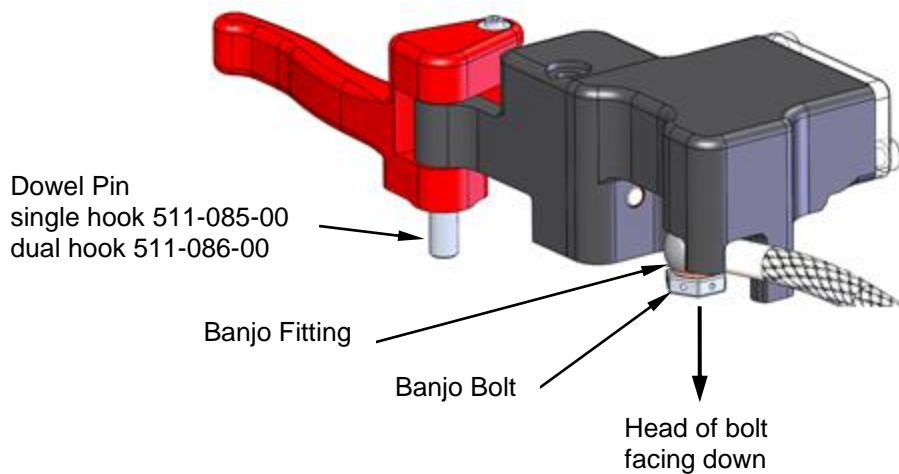

Figure 5.4 Master Cylinder Initial Filling Position
5. Hold the master cylinder on its side so the head of the banjo bolt (internally relieved bolt) is on the down side as shown in Figure 5.4. Slowly push on the syringe plunger to force fluid up to the master cylinder reservoir. Take care to orient the syringe downward so no air is injected. There will be some resistance during filling—this is normal. As soon as fluid begins to enter the reservoir turn the master cylinder upright. During the filling operation tap the master cylinder to loosen air bubbles that may be stuck inside the passage ways. Take care not to allow the vent hole to get below the level of the fluid so it doesn't spill. Slowly operate the lever a few times to help the forward portion of the piston chamber to fill. The dowel pin (single hook 511-085-00 or dual hook 511-086-00) must be temporarily inserted for this.